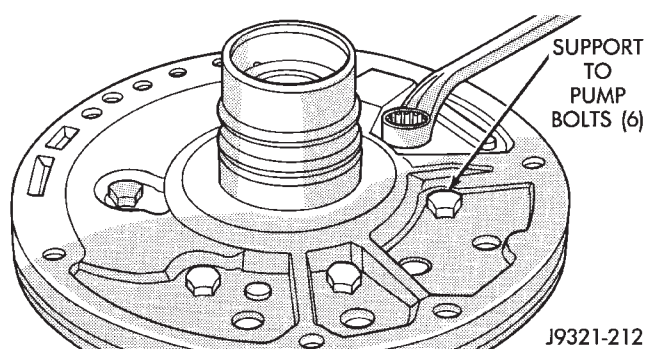

Fig. 42 Loosening Pump Support Bolts
(2) Mark pump housing and support assembly for alignment reference.
(3) Loosen bolts that attach pump body to support (Fig. 42).